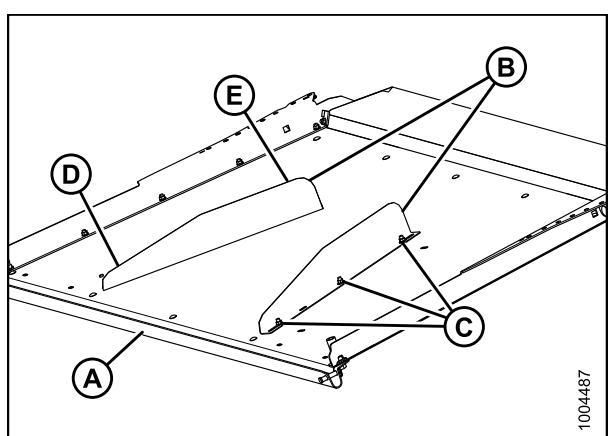

Figure 3.26: Center Deflectors
Orient deflectors (B) so that narrow end (D) is toward the front of the cover (A) and deep end (E) is toward the rear as shown in Figure 3.26: